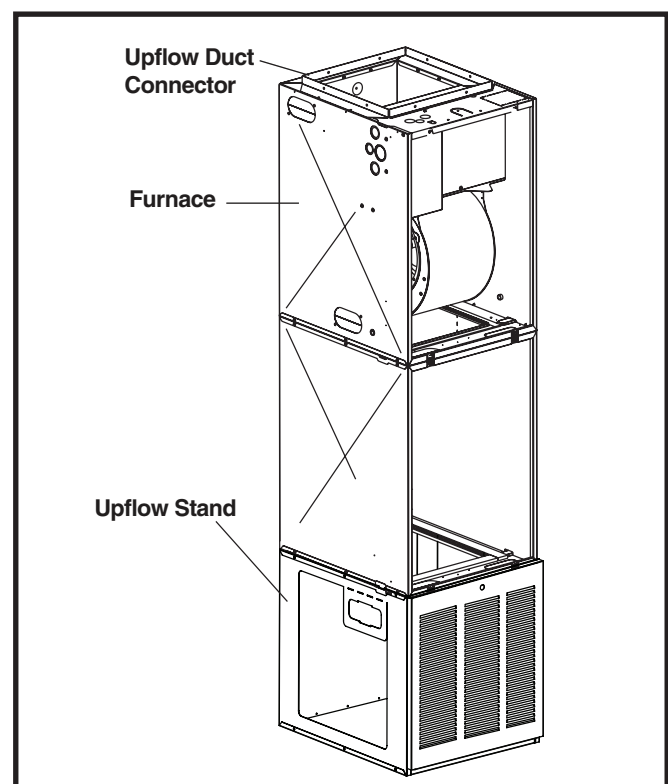

Figure 15. Over-the-Floor Return Air System with Upflow Stand
2. Use optional upflow stand (refer to the technical specifications literature for part number) with filters or construct a suitably braced mounting platform in closet. See Figure 15 \(page 10\).
6. Use optional upflow duct connector or field supplied connector to attach Appliance to overhead supply duct. See Figure 15.